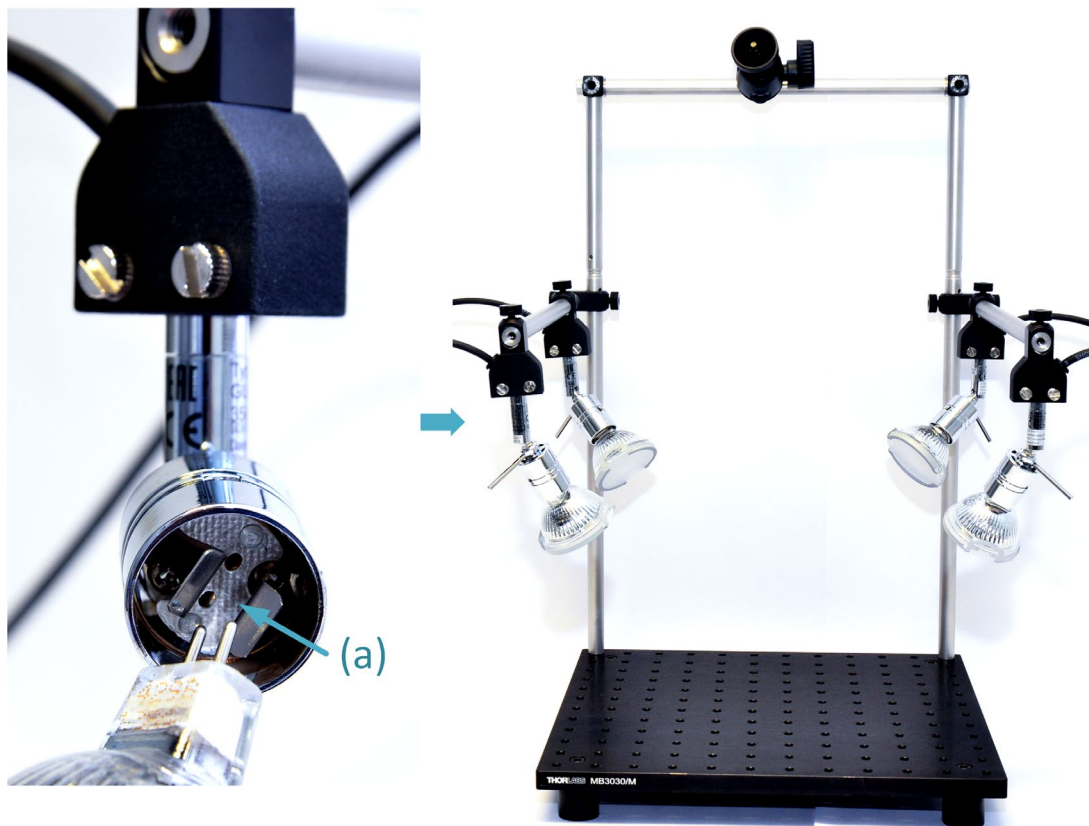

Figure 29 Mounting the lamps into the holders (Step 4.4)
Step 4.4 Mount the lamps into the holders (Figure 29)